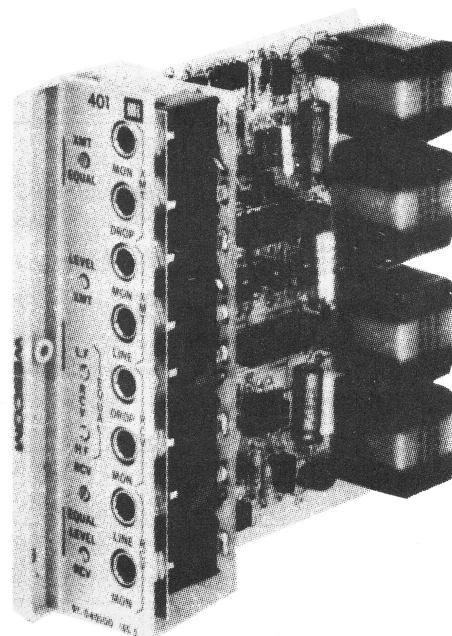

Figure 1. 401 Dual Line Amplifier
1.04 The 401 (Figure 1) is a dual voice frequency line amplifier that provides from 10dB loss to 36dB gain (continuously variable) in both receive and transmit directions.